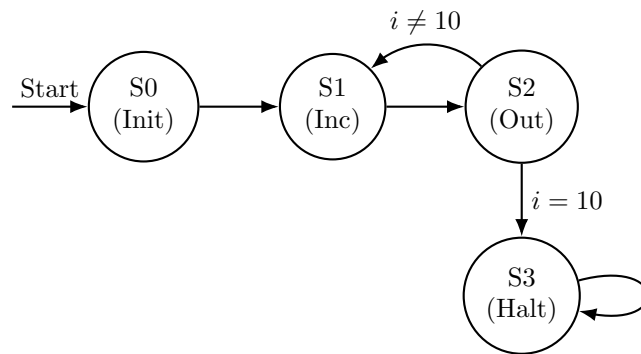

Figure 4: State diagram of control unit for counting 1 to 10.
The state diagram of control unit is derived as shown in Figure 4.
1. Write a VHDL file that defines a finite state machine (FSM) depicted in Figure 4. Your code should include a state variable that hold the current state (s0...s3), a reset input to initialize the state to s0 and the control signals (iLoad, Clear and Out) as outputs to the datapath. Compile the circuit. How many logic elements (LEs) are used to implement your circuit?